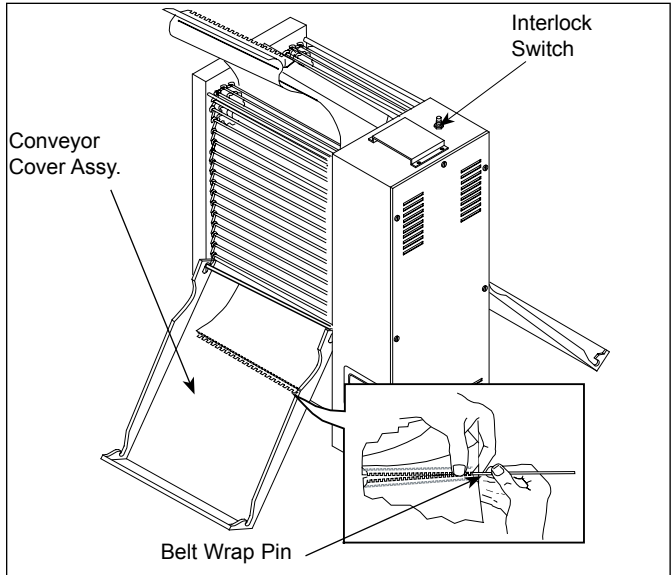

Figure 13. Removing Belt Wrap
4. Move Belt Wraps until connecting hinge is exposed and centered. Lift flap(s) and remove the Belt Wrap Hinge Pin(s) (Figure 13). Remove front and rear Belt Wraps.